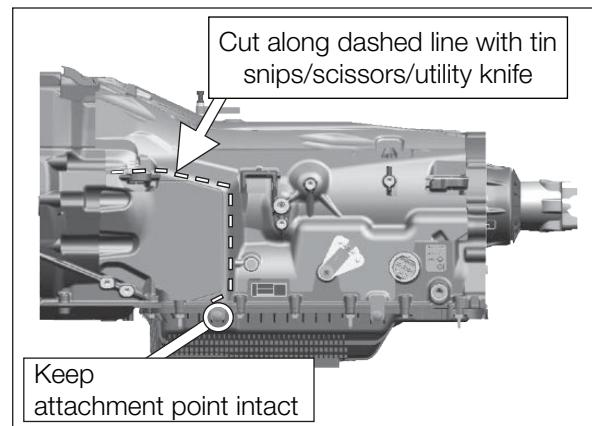

Figure 8
1. If NVH Cover is installed over PTO opening, cut away portion of the cover as described in Ford SVE Bulletin Q-300 (available at www.fordbbas.com, see **Fig. 8**). Exercise caution when removing cover. Avoid any damage or severing of transmission, wiring, and fluid lines.